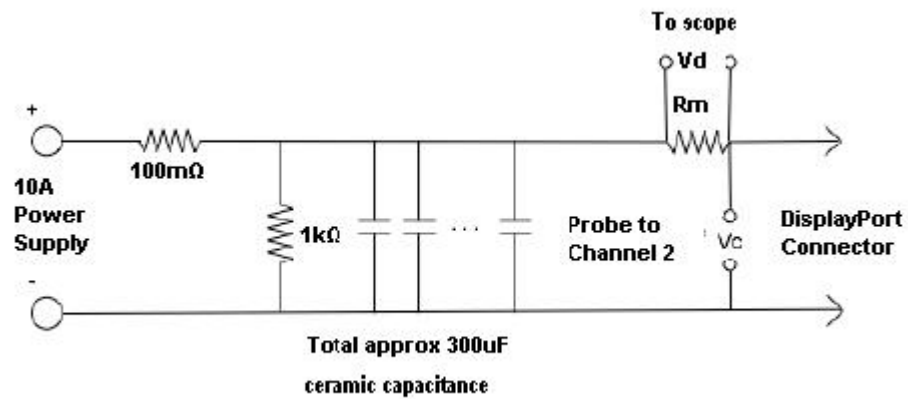

Figure 95 Connection diagram when performing DP Inrush tests
- i Inrush Test Sampling Rate, Gsa/s (1) – change the scope sampling rate.
- ii Inrush Test V_c Scale/Div (V) (1) – voltage applied to the device.
- iii Inrush Test V_d Scale/Div (V) (0.2) – voltage proportional to current draw.
- e The default setting for R_m as shown in Figure 95 is 50 m Ω . In cases where V_d is not measured across a 50 m Ω resistor, for example, when using the N2782A 0.1 A/V current probe, you need to set R_m to 1.0 by changing the following selection:
- i Inrush Test Count (10)
- i Inrush Test Low Pass Filter in MHz (50)